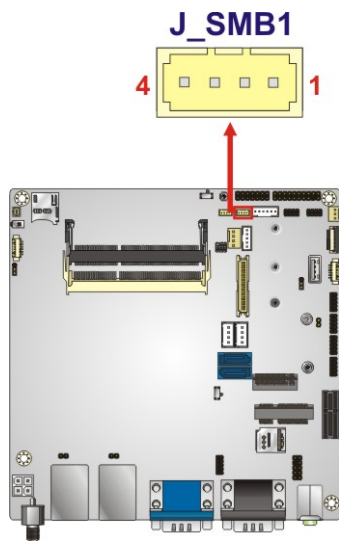

Figure 3-23: SMBus Connector Location
- CN Location: See Figure 3-23